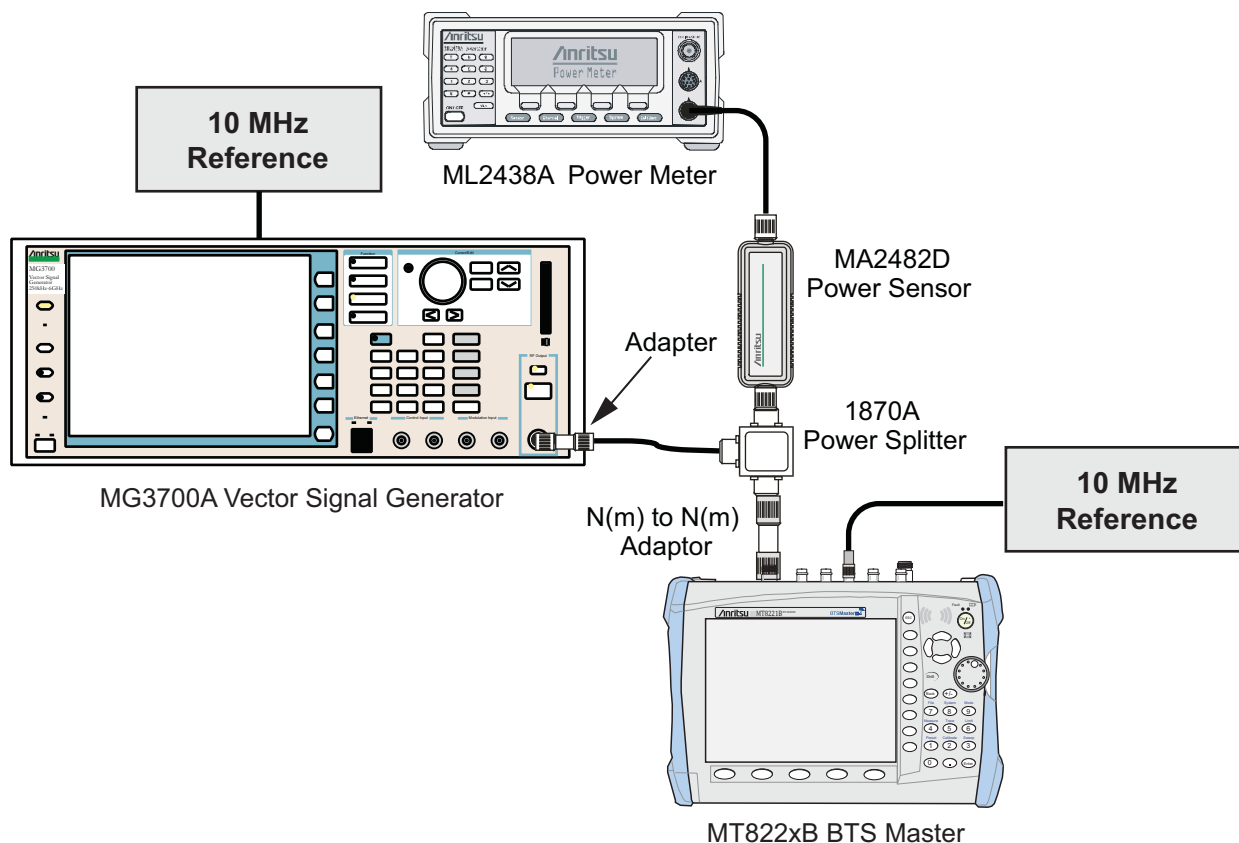

Figure 5-1. GSM/EDGE Signal Analyzer Option Verification
2. Connect the equipment as shown in Figure 5-1.
4. Set the MT822xB mode to GSM/GPRS/EDGE Signal Analyzer. Press **Shift** and press **Preset** (1) to preset the MT822xB.
1. Confirm that the equipment settings are unchanged from the previous test. Refer to Figure 5-1 on page 5-8.